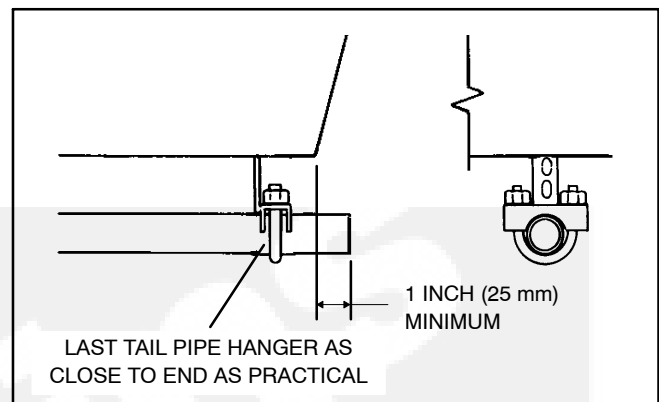

FIGURE 7-9. TERMINATING THE EXHAUST TAIL PIPE
7. Do not terminate the tail pipe underneath the vehicle. Extend it a minimum of 1 inch (25 mm) beyond the perimeter of the vehicle (Figure 7-9). *Support the end of the tail pipe such that it cannot be pushed in and up under the skirt of the vehicle.*